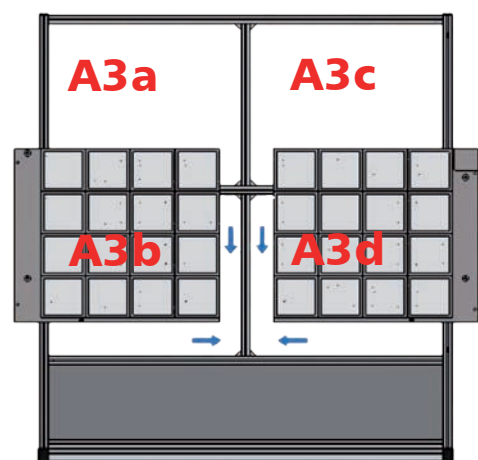

Abb. 3.1-30
**Step 22** The basic modules **A3a bis A3d** are marked bottom right (UR), bottom left (UL), top right (OR) and top left (OL). Insert the two lower basic modules into the frame construction using the z-profiled plates attached to the rear of each module (**fig. 3.1-30**). The basic modules will be fixed with two (2) provided socket head screws **M8x30** and two (2) washers for each module.